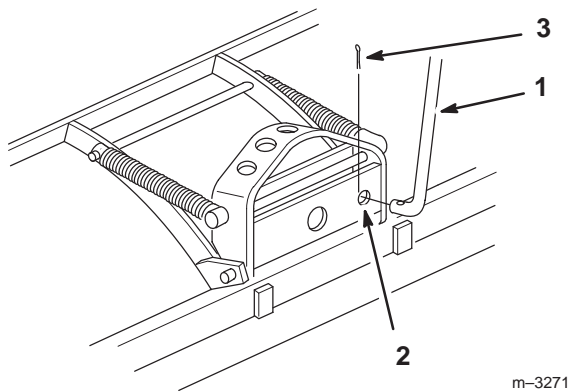

Figure 2
2. Insert one end of the angle control rod up through the hole in the bottom plate of the channel weldment (Fig. 2). Insert a cotter pin and bend the ends of the pin to secure the rod.